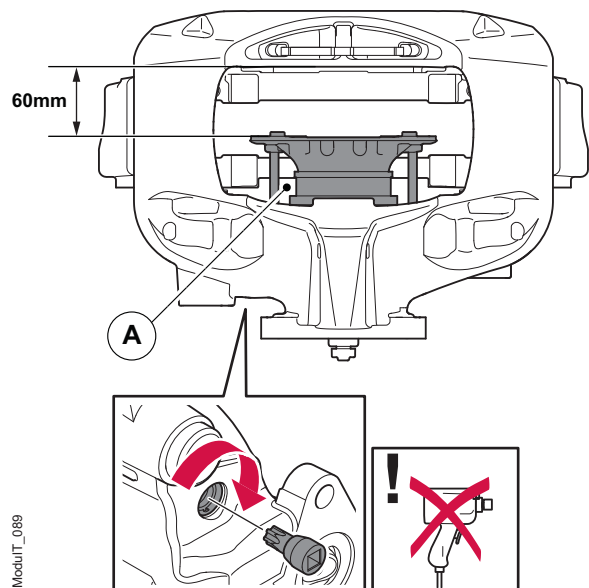

Figure 28. Max extension to check the thrust plate bellows
2. Using Haldex special tool P/N95232 (Torx 55), manually turn the reset shaft clockwise to adjust the brake so that the thrust plate (A) is extended and the bellows can be viewed. Stop when the distance between the inner pad face of the thrust plate and outer pad face on the calliper is 60 mm, see figure 28.